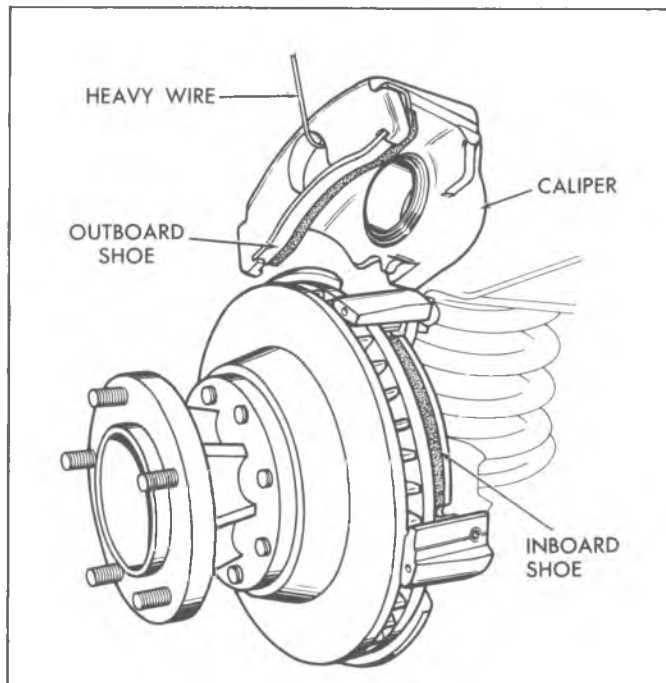

Fig. 102--Removing Caliper from the Disc
5. Lift the caliper off the disc and support in a raised position with a heavy wire (fig. 102).